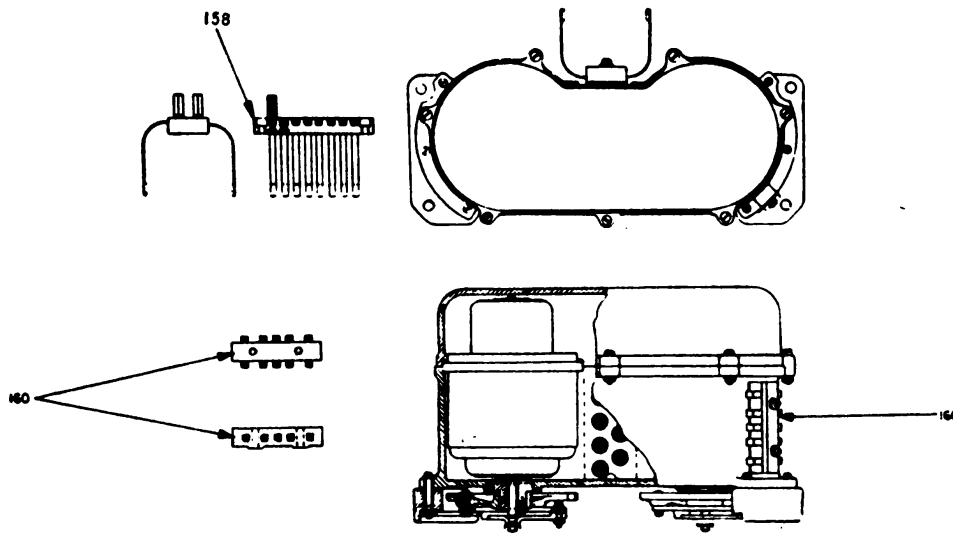

FIGURE 4.
- (1) Disconnect the wires on terminal block 160, figure 4.\*
(3) Bring assembly forward until gears on under side are free. Taking care not to distort the brush springs in the rear 158, figure 4, lift assembly up toward elevation handwheel until unit is clear of main case housing. Set transmitter assembly down in an inverted position to avoid damage to couplings or gears.